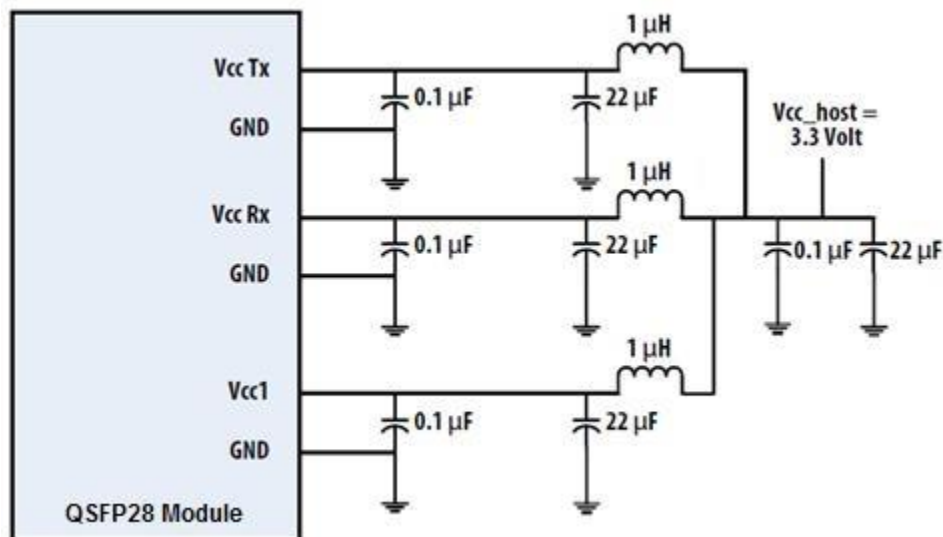

Figure 4. Recommended Power Supply Filter
2. VccRx, Vcc1 and VccTx are the receiver and transmitter power suppliers and shall be applied concurrently. Recommended host board power supply filtering is shown in Figure 4 below. Vcc Rx, Vcc1 and Vcc Tx may be internally connected within the QSFP28 transceiver module in any combination. The connector pins are each rated for a maximum current of 1000mA.